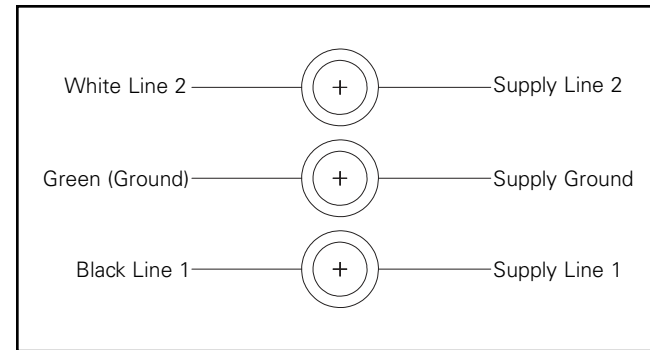

Figure 9. Terminal Block Wiring Diagram
**Note:** See wiring diagram for additional details. (Figure 9.)